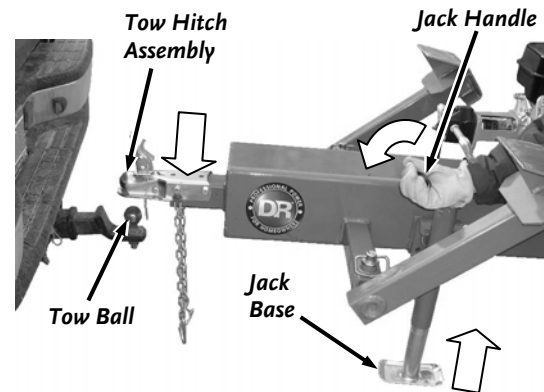

Figure 30
3. Lower the Hitch Coupler of the Backhoe onto the tow vehicle’s Tow Ball (must be a 2" tow ball) by lowering the Jack until all the weight is on the Tow Ball and the Jack Base comes off the ground (**Figure 30**).